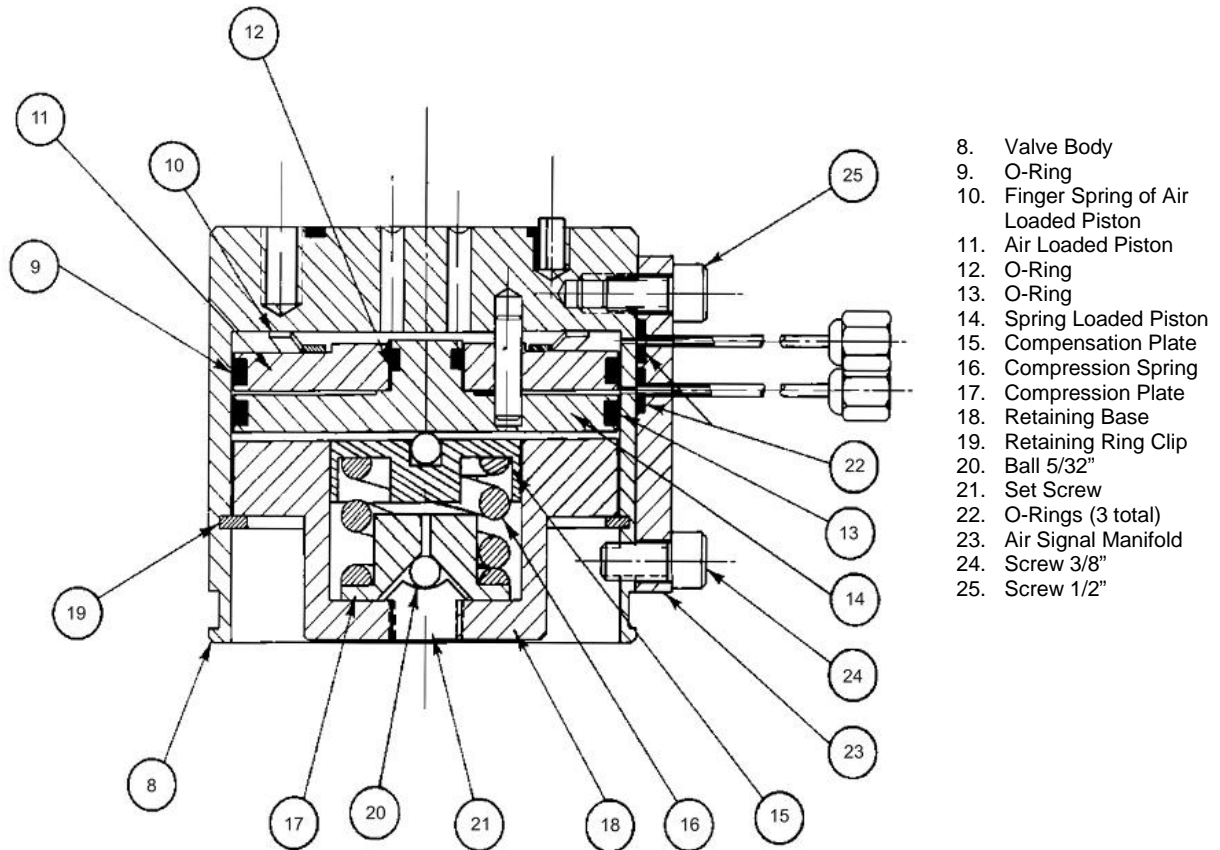

Figure 4-40: Model 11 (or Model 11 LDV) Valve Without Valve Cap
This section presents the user with the necessary information to perform fault diagnostic testing, maintenance and repair and installation of the Model 11 Valve and the Model 11 Low Dead Volume Valves. These valves are actuated by air pressure. To ensure optimum valve operation, a clean contaminant free operating environment is required at all times. Refer to Figure 4-40.
1.	Relieve the pressure on the base Allen Set Screw (21) by turning it counterclockwise until it turns easily. Refer to Figure 4-40.